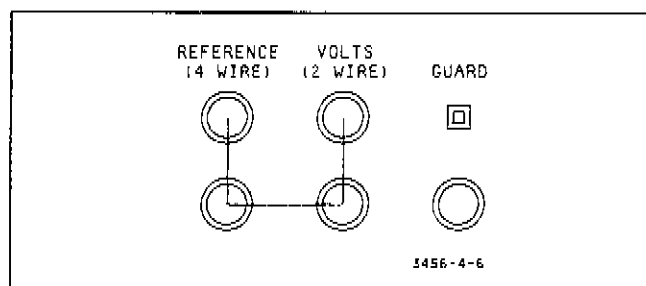

Figure 4-6. 4-Wire Ohms Short.
- a. Press the 3456A's RESET button. Short across the VOLTS (2WR, 4WR) and RATIO REF (4 WR SENSE) terminals as shown in Figure 4-6.